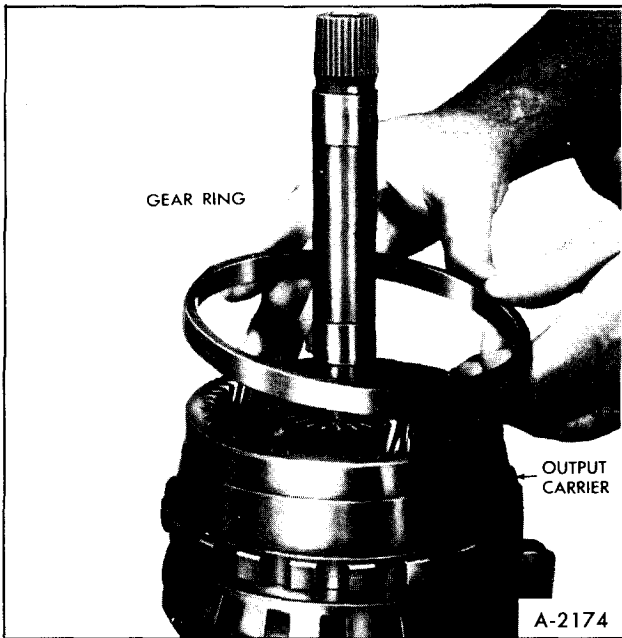

Figure 57—Removing Gear Ring
5. Remove front internal gear ring from output carrier assembly, Figure 57.